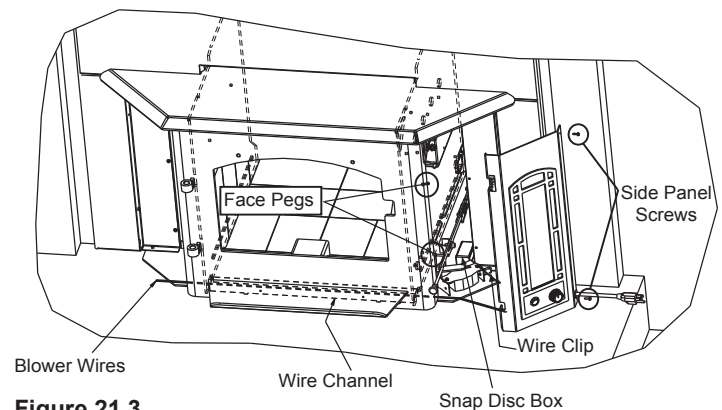

Figure 21.3
1. Place snap disc box in location shown in **Figure 21.3**.